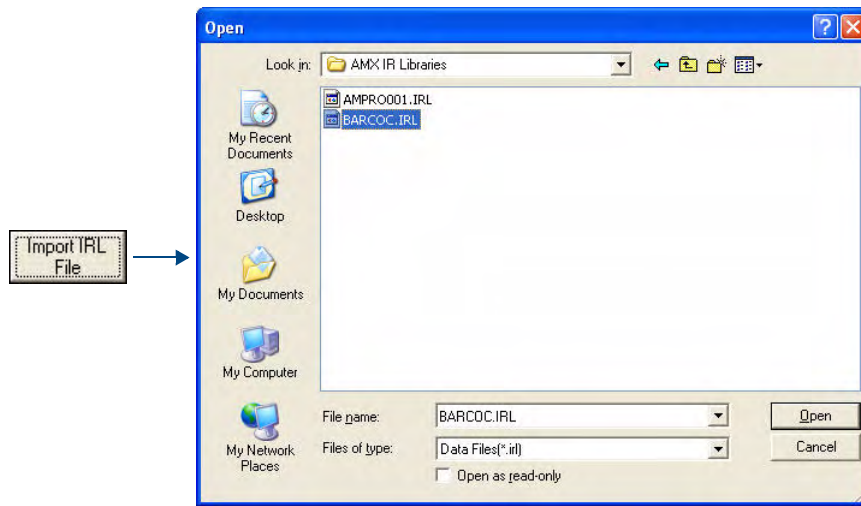

FIG. 42 Open dialog
1. In the Edit Options window of the AMX Library Files dialog, click **Import IRL** (FIG. 42).